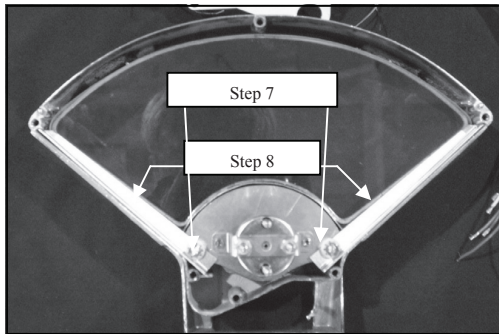

Figure 9
Step 7: Place nylon washers over mounting holes of the gear selector movement. (Figure 9)
Step 8: Place glass holders on each side of the bracket, making sure to push it into the corners completely. Screw down with (2) 8-32 x 1/2" screws and star washers. (Figure 9)